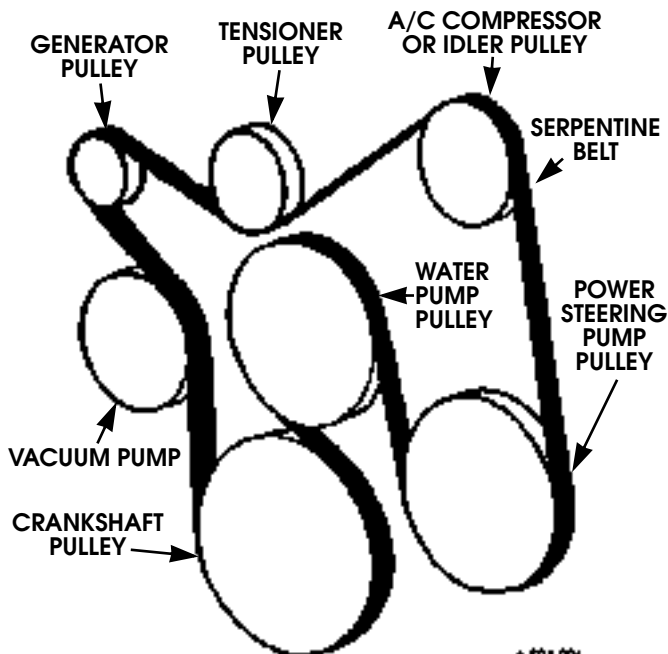

Figure 4-33: Serpentine Belt Routing
2. Remove belt from pulleys (Figure 4-33).
3. Position half-inch drive breaker bar in belt tensioner and move tensioner counterclockwise and position serpentine belt on pulleys as shown (Figure 4-33).